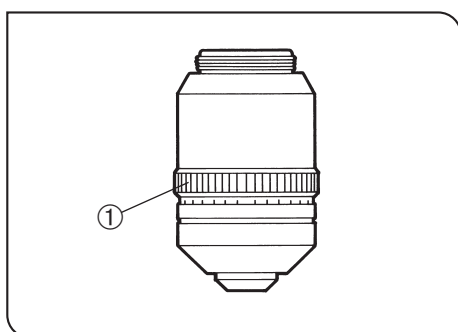

Fig. 41
- If the cover glass thickness is known, set the correction collar ① to that scale value. (Fig. 41)
- If the cover glass thickness is unknown, adjust the correction collar ① and fine adjustment knob alternately until the positioning with the highest contrast is obtained.
- ⊙ Be careful not to touch the correction collar ① when turning the revolving nosepiece.